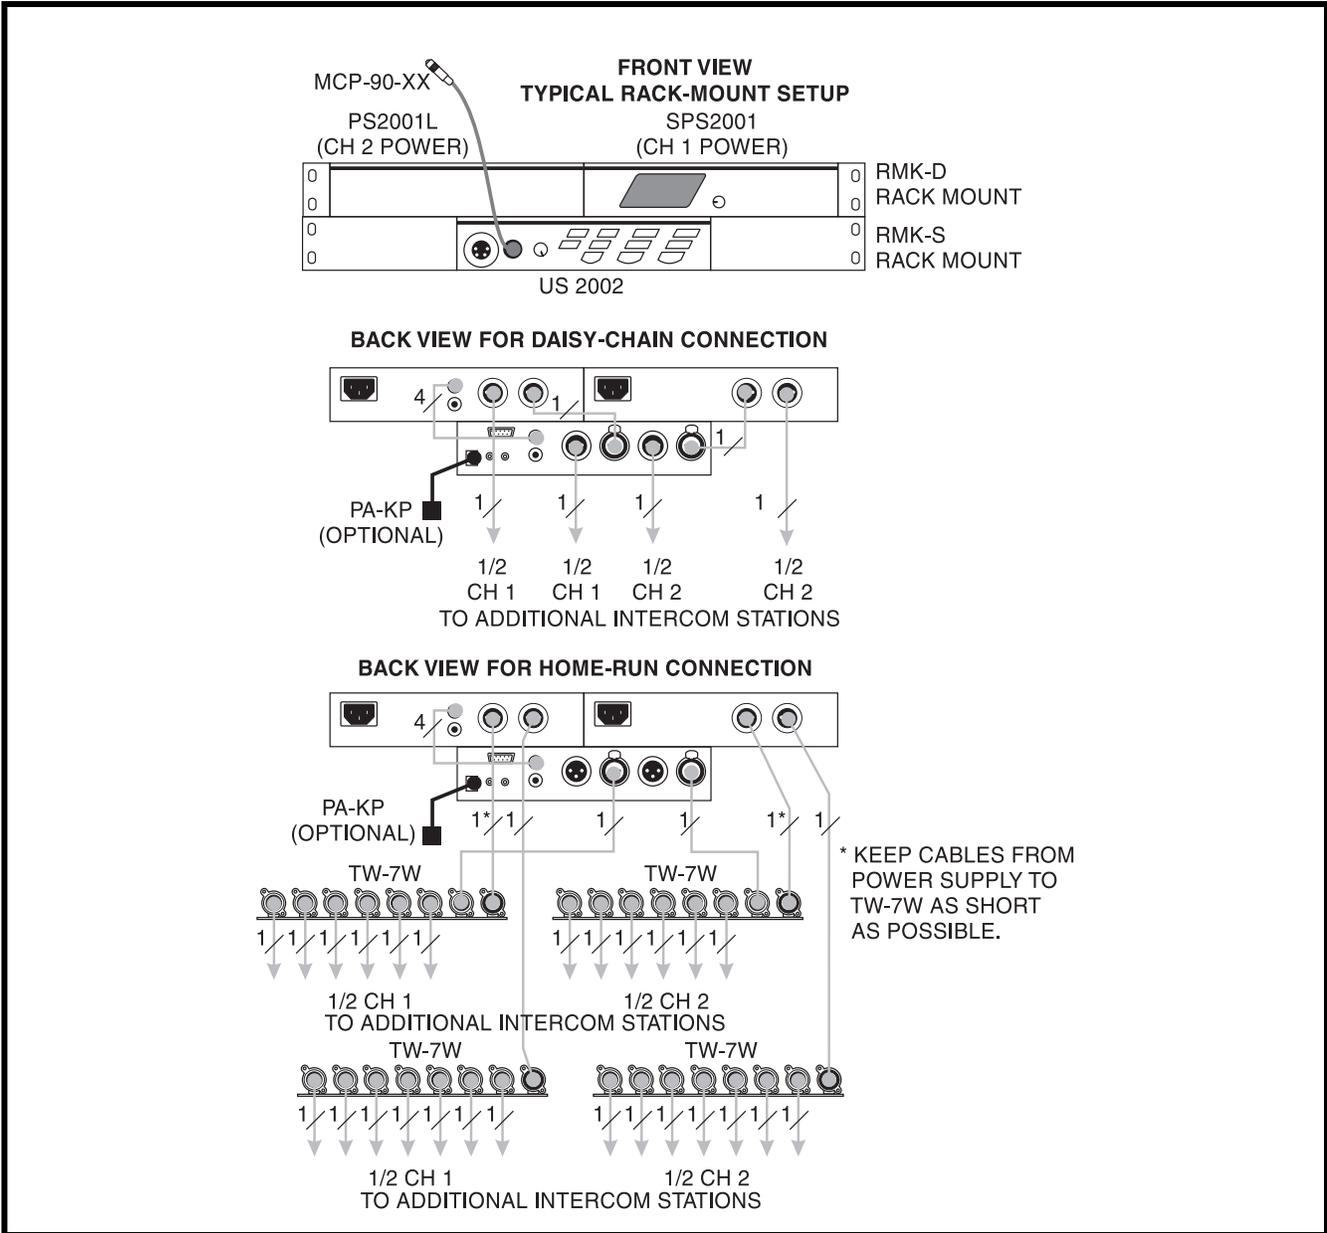

FIGURE 7. US-2002 Monaural Master Speaker Station Configuration with 2 Power Supplies.
The configuration, shown in Figure 7, is suitable for large intercom systems when you want to operate the US-2002 as a master speaker station, with one (1) speaker to monitor both intercom channels. In this configuration, the SPS-2001 and PS2001L Combine/Isolate switches are set to the Combine position. With this setting, all intercom stations connected to the SPS2001 are combined on intercom channel 1 and all intercom stations connected to the PS-2001L are combined on channel 2. The amplified speaker in the SPS-2001 is used as the speaker output for the US-2002 and the US-2002 dip switches are set for monaural operation (default setting) so that both intercom channels are heard in the speaker. The PA-KP local power supply is optional. When a PA-KP is connected, the US-2002 automatically disconnects from system power. Since the US-2002 is not drawing power from the intercom system, more system power is available for additional belt packs, etc.